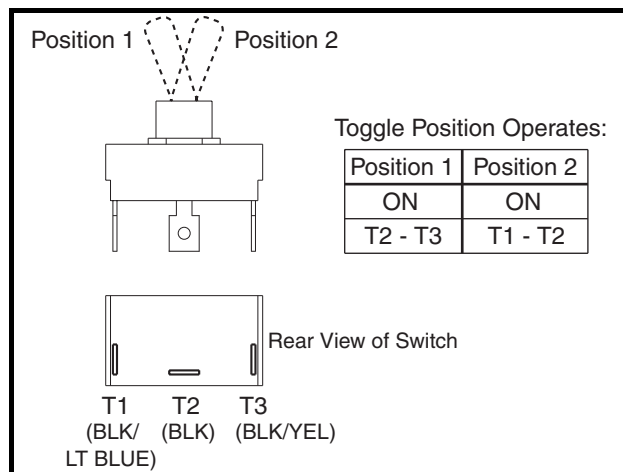

Figure 12-30 Neutral Lockout Switch Test – for Pedal-Start Vehicles
1. Remove the wires from the switch (**Figure 12-30, Page 12-30**).